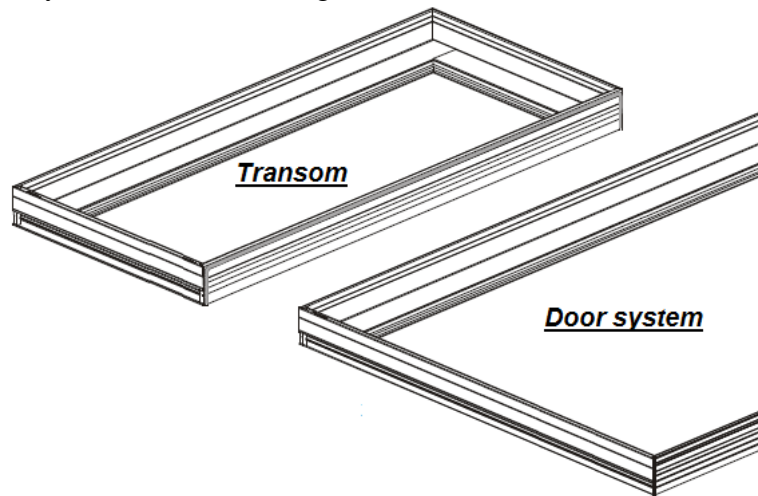

Figure 1
- Position transom at the top of the door system. Allow room between the transom and door system for silicone. Figure 1